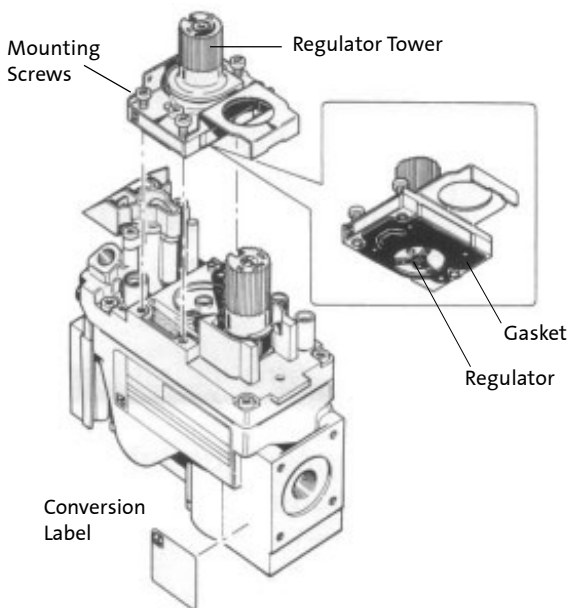

Figure 18. Regulator Assembly.
- from the front of the valve Regulator. See fig. 18.